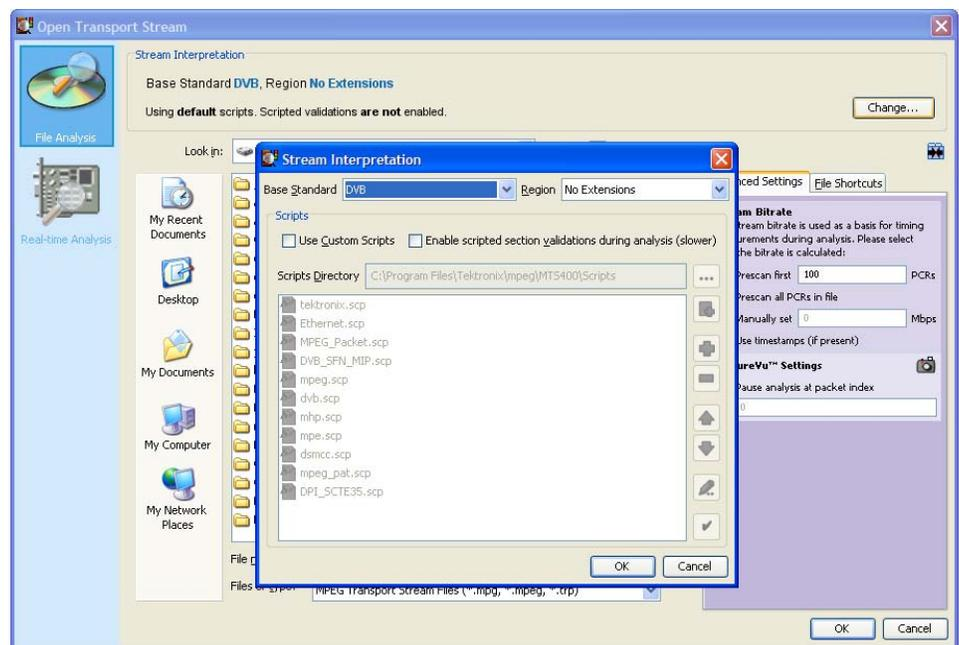

Figure 2–5: Stream Interpretation display in the Open Transport Stream window
18. Make the following setting changes in the Real-time Analysis display (see Figure 2–6).